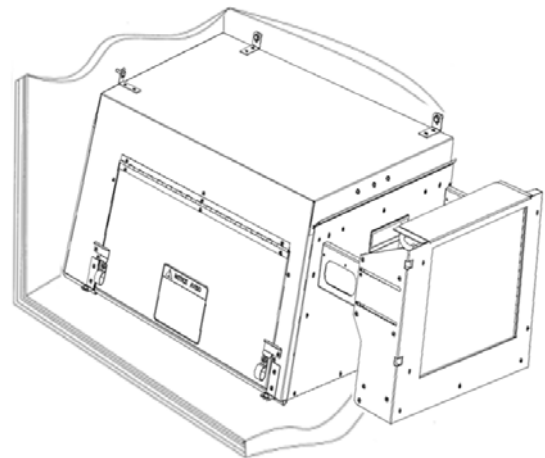

Figure 8.2 Refrigeration Unit Housing
3. Remove the refrigeration unit housing (See Figure 8.2).
- a. Locate the notches on the back right corner of the housing (See Figure 8.2).